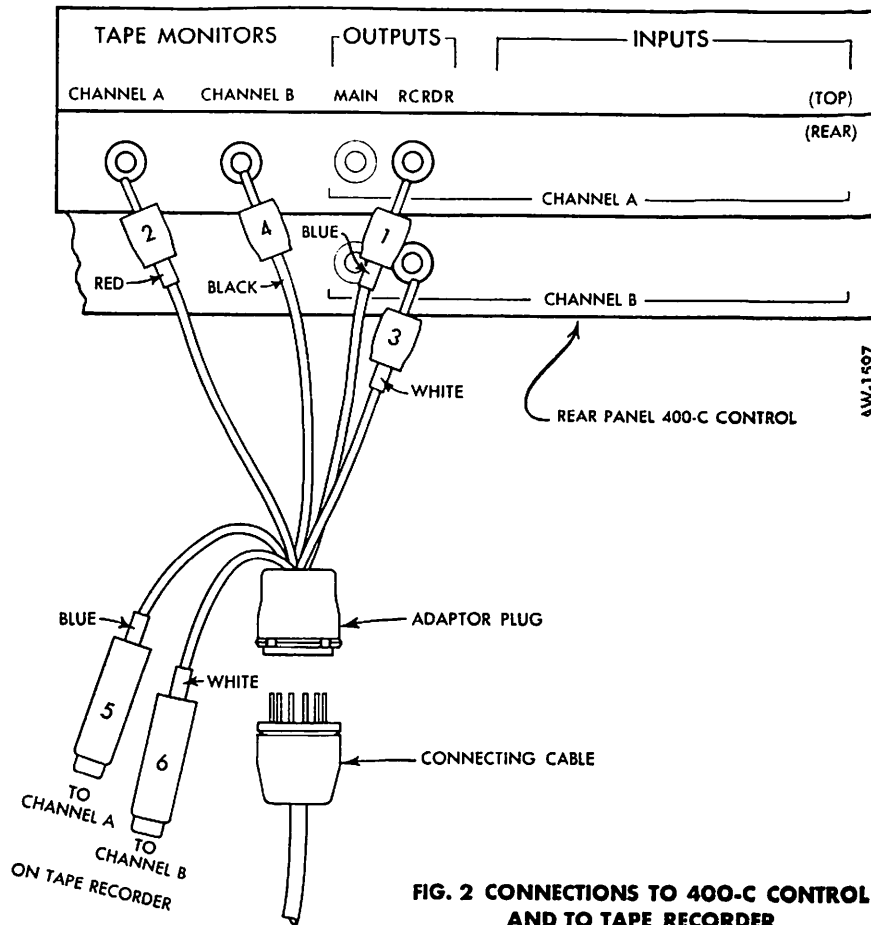

FIG. 2 CONNECTIONS TO 400-C CONTROL AND TO TAPE RECORDER
- 2 — Connect the adaptor plug to the rear panel of the 400-C as shown in Fig. 2. Plug 1 (blue) goes to Channel A RCRDR OUTPUT, Plug 2 (red) to Channel A TAPE MONITOR, Plug 3 (white) to Channel B RCRDR OUTPUT and Plug 4 (black) to Channel B TAPE MONITOR.